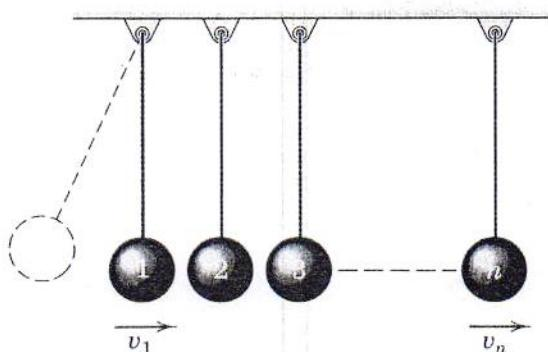

Fig. Q10
10. The Fig. Q10 shows  $n$  spheres of equal mass  $m$  suspended in a line by wire of equal length so that the spheres are almost touching each other. If sphere 1 is released from the dashed position and strikes sphere 2 with a velocity  $v_1$ , write an expression for the velocity  $v_n$  of the  $n$ th sphere immediately after being struck by the one adjacent to it. The common coefficient of restitution is  $e$ .